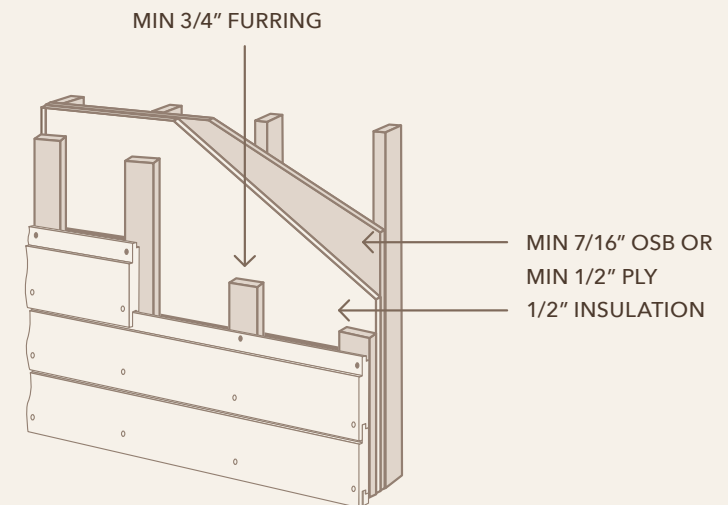

FIG. 7
- Minimum 7/16" OSB or 1/2" plywood sheathing over continuous 1" or thicker continuous insulation, over minimum 7/16" OSB or 1/2" plywood sheathing. (Fig. 7)